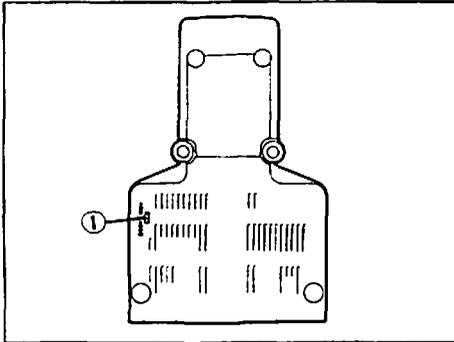

Fig. 1
2 Checking Line Voltage Setting (Fig. 1)
1. Gently tip the microscope cover, as shown in Fig. 1.
2. Determine if the line voltage selector switch ① at the bottom of the microscope base is set to your local voltage. If not, set the line voltage selector switch to the correct position using a screwdriver or similar tool.